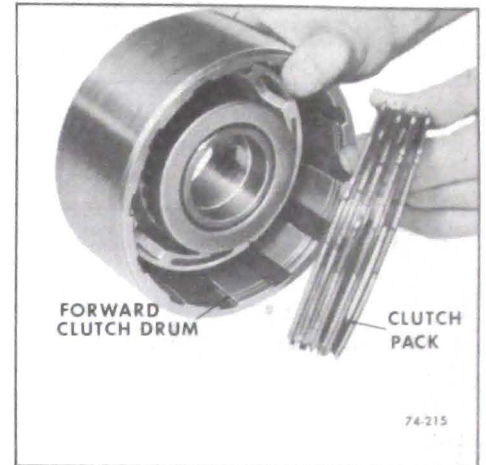

Figure 74-215
6. Remove clutch pack from forward clutch drum. See Figure 74-215.